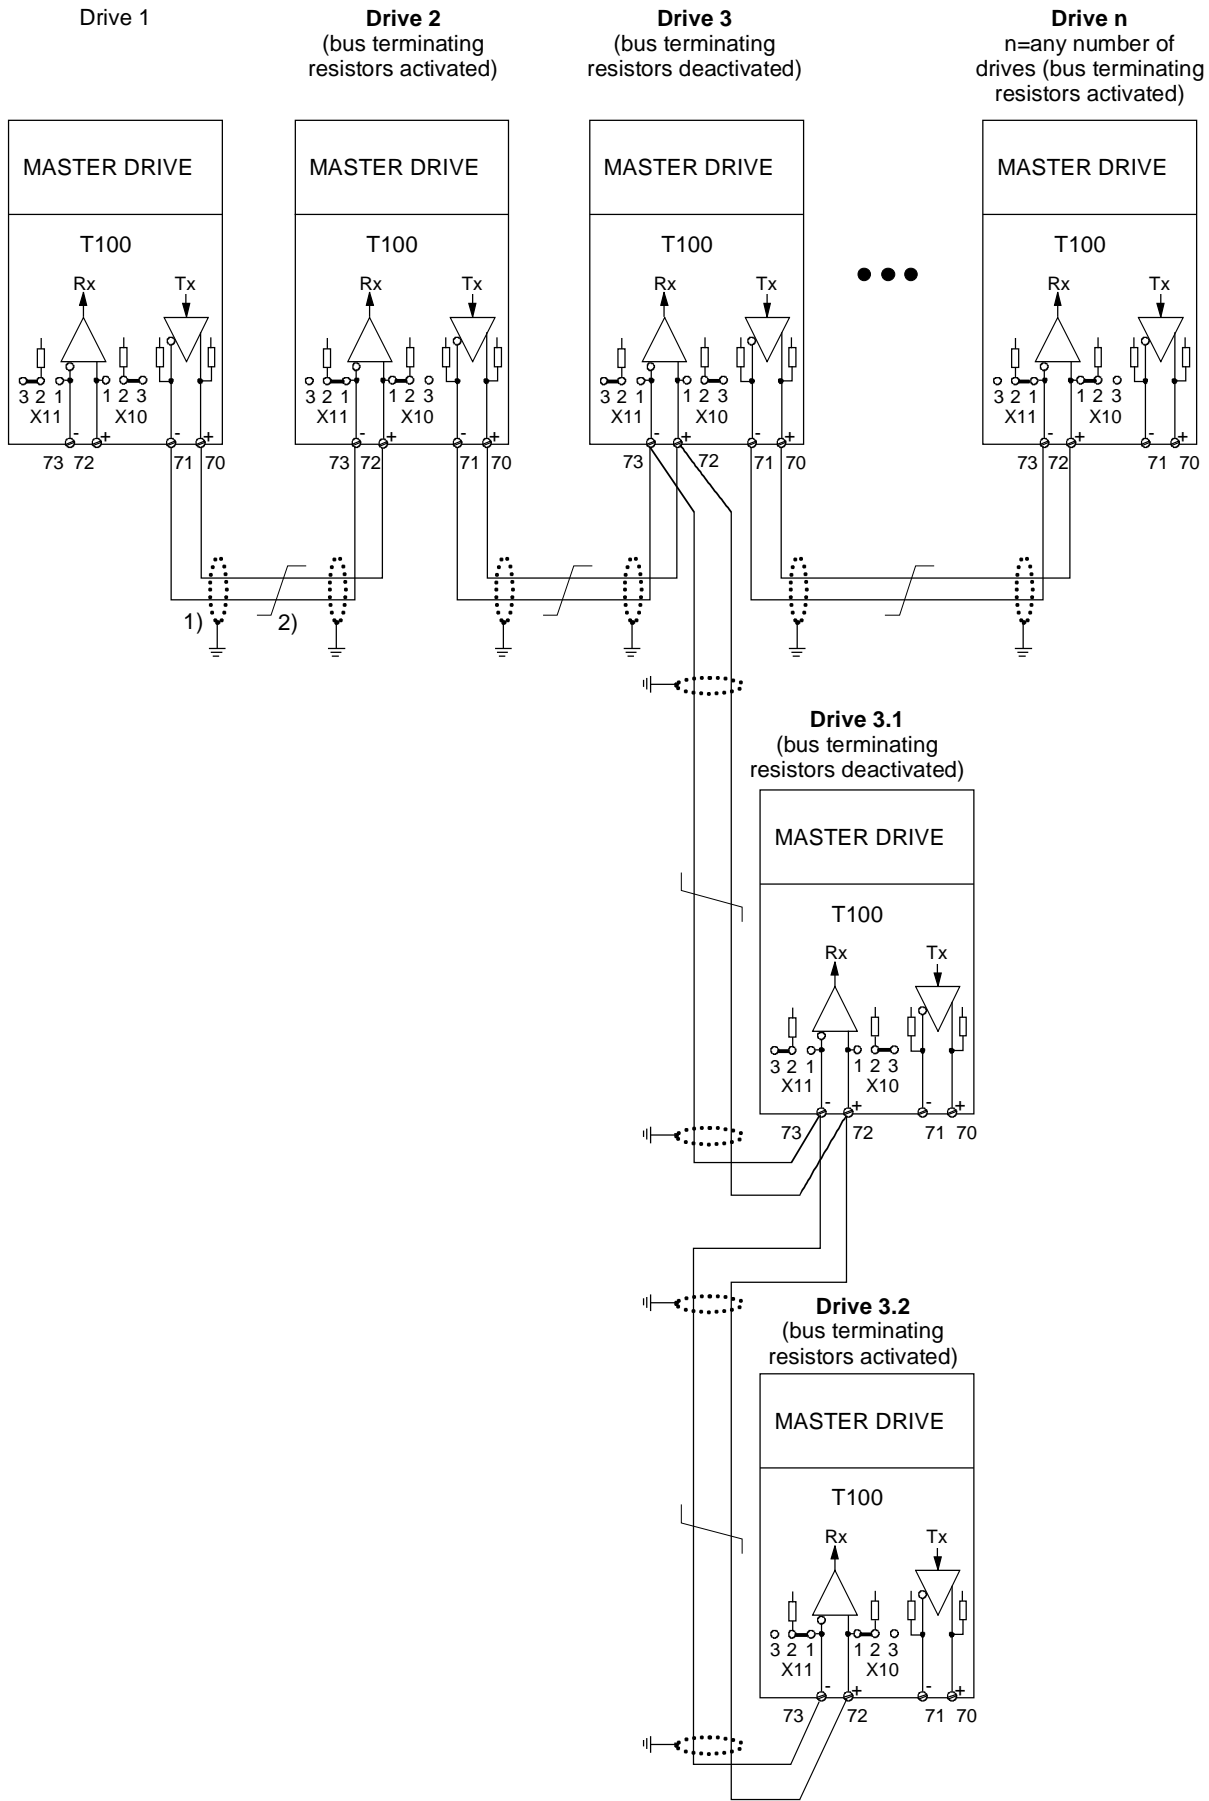

Fig. 3.6.4: Peer connection type "mixed combination"
- Any desired **mixed combinations** of series and parallel connections can be implemented. Fig. 3.6.4 shows an example of this type of connection.